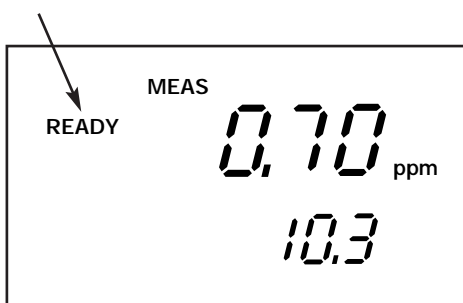

Figure 39
4. Allow time for the reading to stabilize. When the readings stabilize, a **READY** indicator displays. The **READY** indicator shows when the readings are stable. When this occurs, **READY** appears on the top left corner of your display. The reading holds until the measured value fluctuation exceeds the set limits. —See Figure 39.